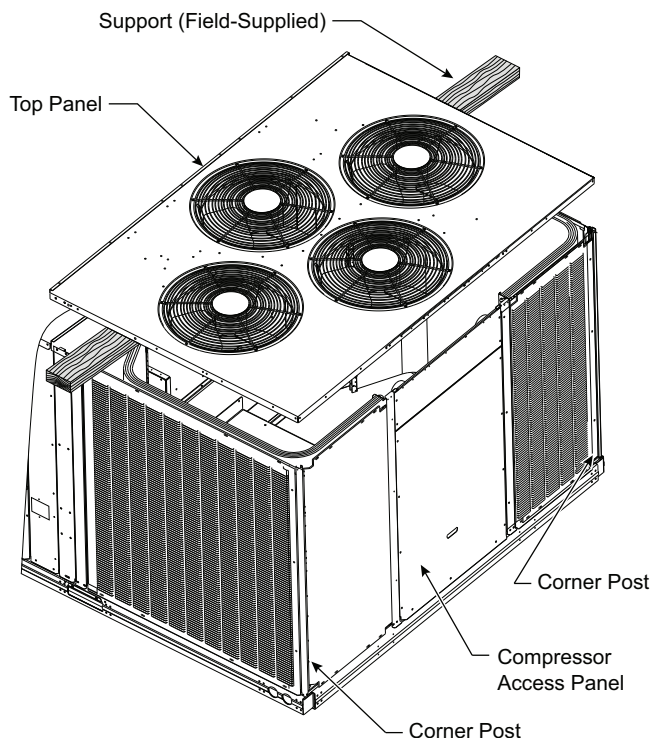

Fig. 18 — Top Panel Removal
3. Lift the top panel at the condenser fan end and support the top panel so it remains level while resting on the condenser fans as shown in Fig. 18.
4. Remove the compressor access panel to access the lower coil clips. The condenser coil corner post may also be removed. See Fig. 18.